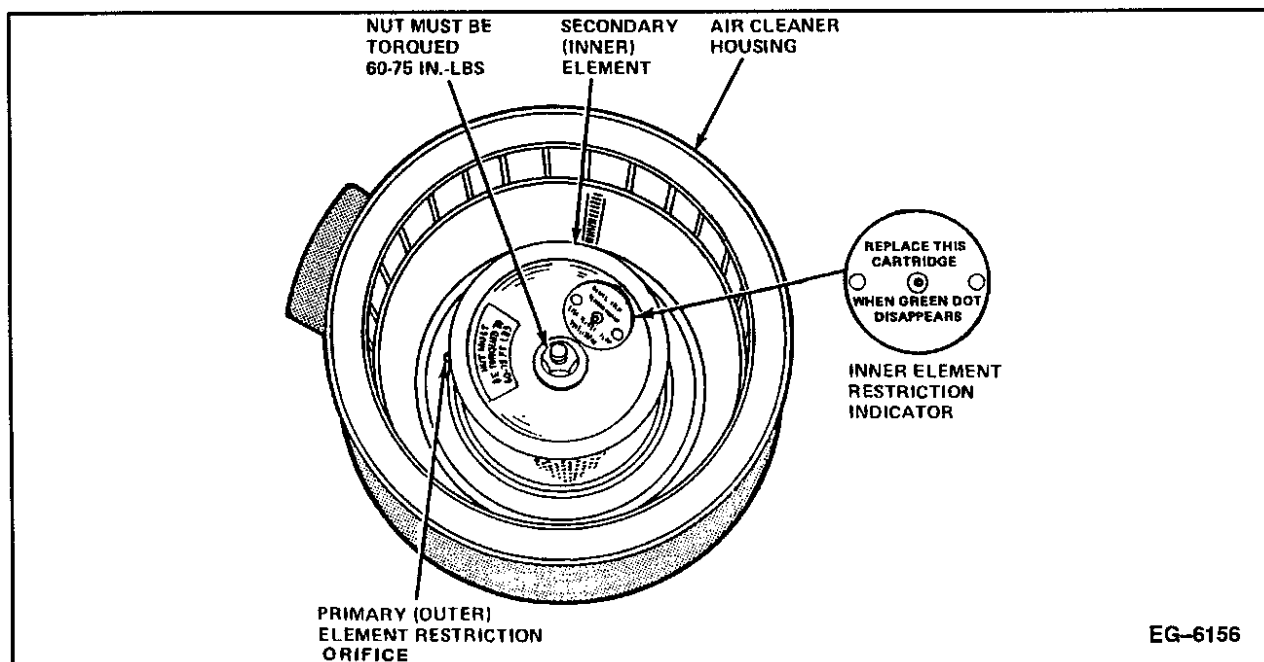

Figure 58 Dual Element Air Cleaner with Indicator in End Cap
1. Dual Element Air Cleaner with Indicator in End Cap (See Figure 58, page 108).